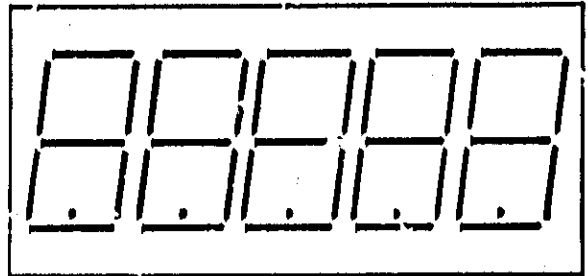

Figure 7-1. Display Verification.
b. Verify that the display is completely illuminated as illustrated in Figure 7-1.